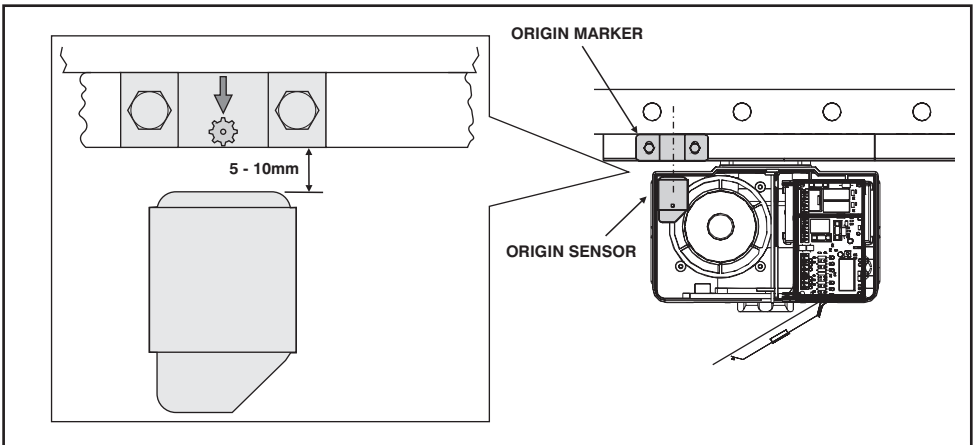

Figure 20 Origin Marker and Sensor Clearance
13. Open the gate until the origin marker is in line with the origin sensor and adjust the clearance between the origin sensor and origin marker to between 5 and 10mm (Figure 20). For optimum performance, try and keep this distance as small as possible.